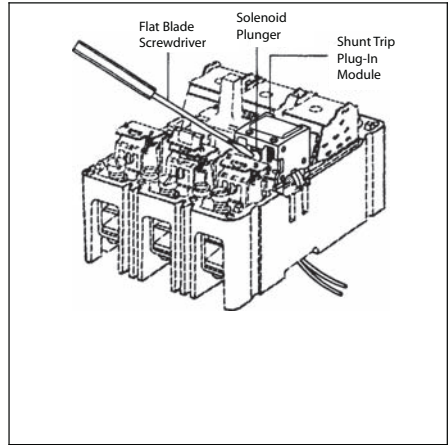

Fig. 2-6. Shunt Trip Mechanical Check.
- b. Hold accessory in position. Using a small flat-blade screwdriver, push in on solenoid plunger (see Fig. 2-6). Circuit breaker should move to the trip position.